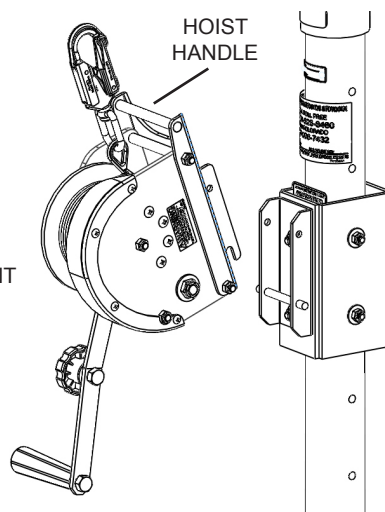

Figure 5j: PH Series Hoist Removal
- ii) Grasp the hoist handle and pull the top of the hoist away from the structure while lifting upwards to unhook the slots of the quick release bracket from the anchoring rod on the mounting bracket. See Figure 5j. Store as required.